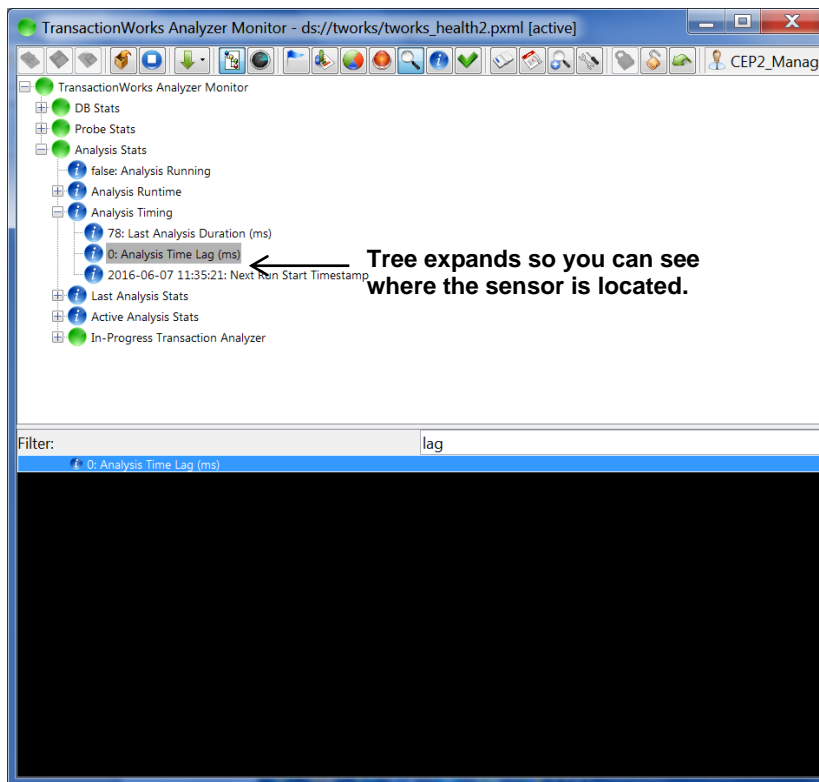

Figure 4-61D. Expanded Tree
- In this example, we searched for a sensor with **lag** in its name. The result was the **Analysis Time Lag (ms)** sensor. Click **Analysis Time Lag (ms)** to expand the tree in the top pane to see where the sensor is located (Figure 4-61D).